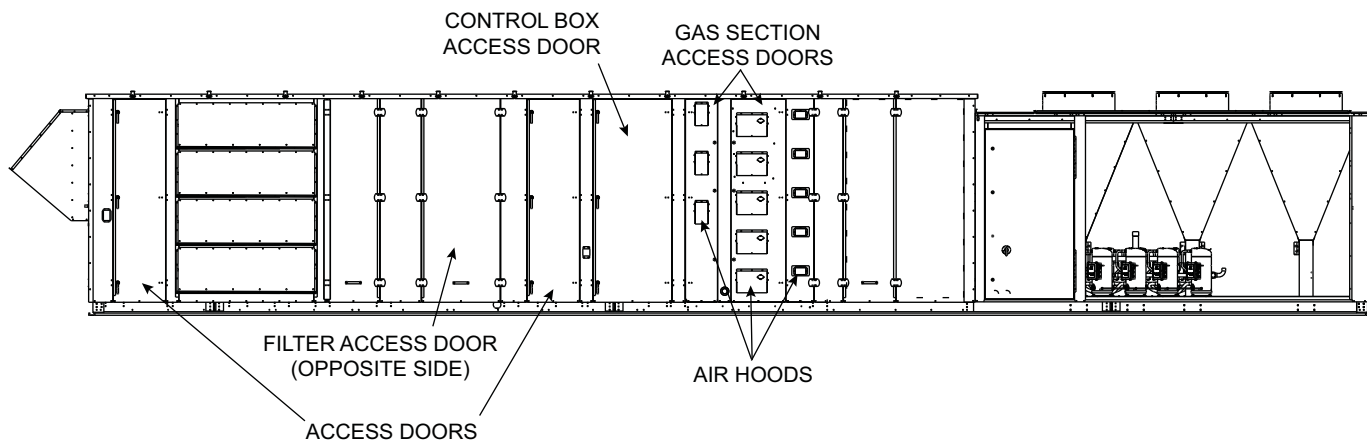

Fig. 4 — Door Locations
2. Open gas section access door. See Fig. 4.
4. Adjustment of the air/gas mixture if the burner flames are not bright blue. (See Fig. 4 and 5 for location of access panel and proper flame appearance.)